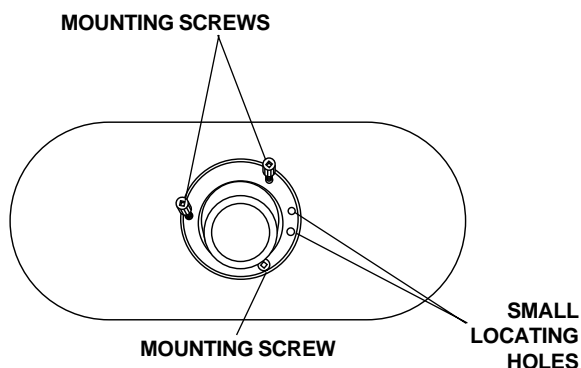

FIGURE 8
3. Install the mounting screws as shown in *Figure 8*. Firmly tighten the screws. If possible, torque the screws to 120 inch pounds.